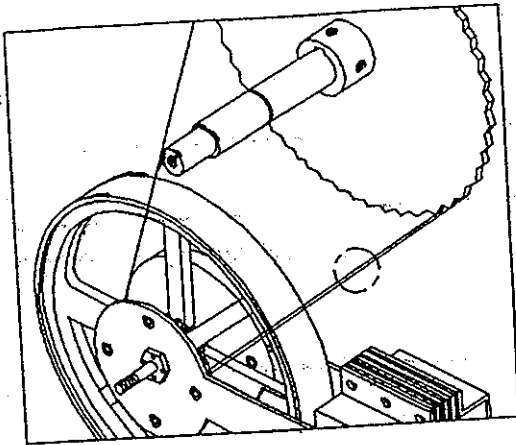

Fig 16-1.
3. Assemble the chain and wheel to the eddy current system's gear, making sure the chain matches up completely with the teeth of the chain wheel and the gear teeth (see Fig. 16-1 to 16-3).